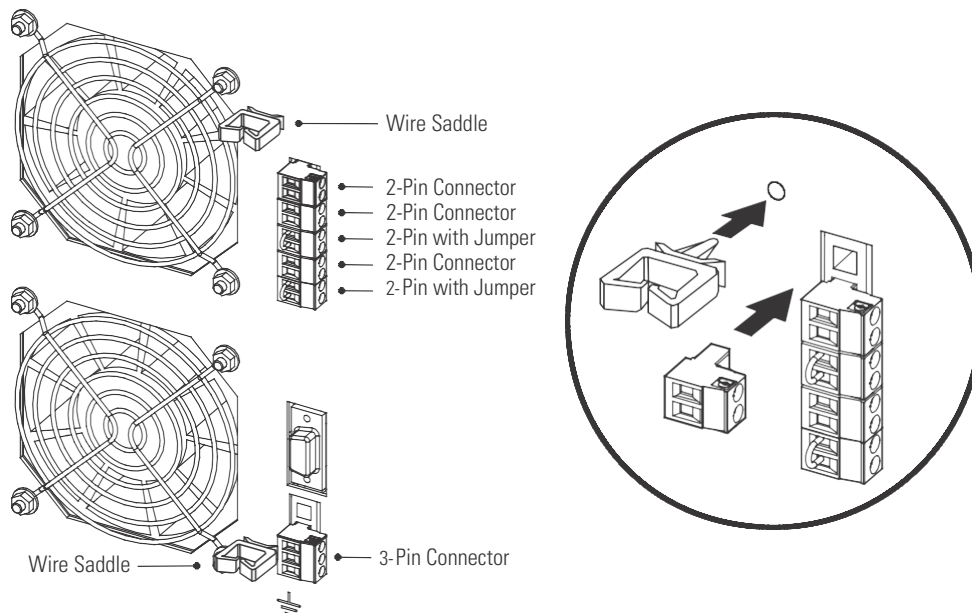

Figure 54. Installing the Communication Terminal Block Connectors
18. On the UPS rear panel, plug in the supplied communication terminal block connectors as shown in Figure 54.